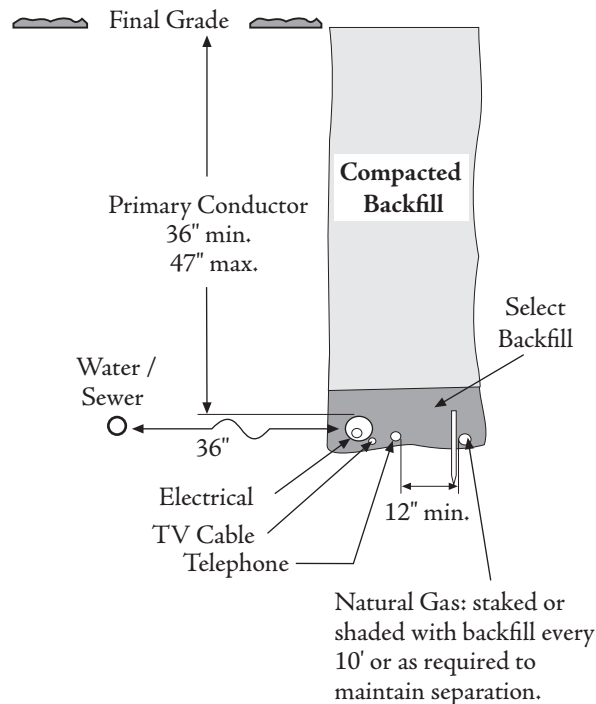

Figure 4-1A
5. The minimum separation between electric and gas shall be 12 inches. The gas line shall be staked or shaded with backfill every 10 feet or as required to maintain separation. The minimum separation between electric and water/sewer shall be 36". Refer to Figure 4-1A.